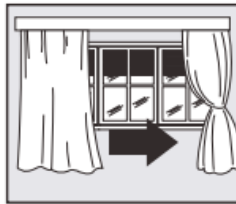

Fig. 12
- Protect the room from direct exposure to the sun by partially closing curtains and/or blinds to make the appliance much more economical to run (Fig. 12);